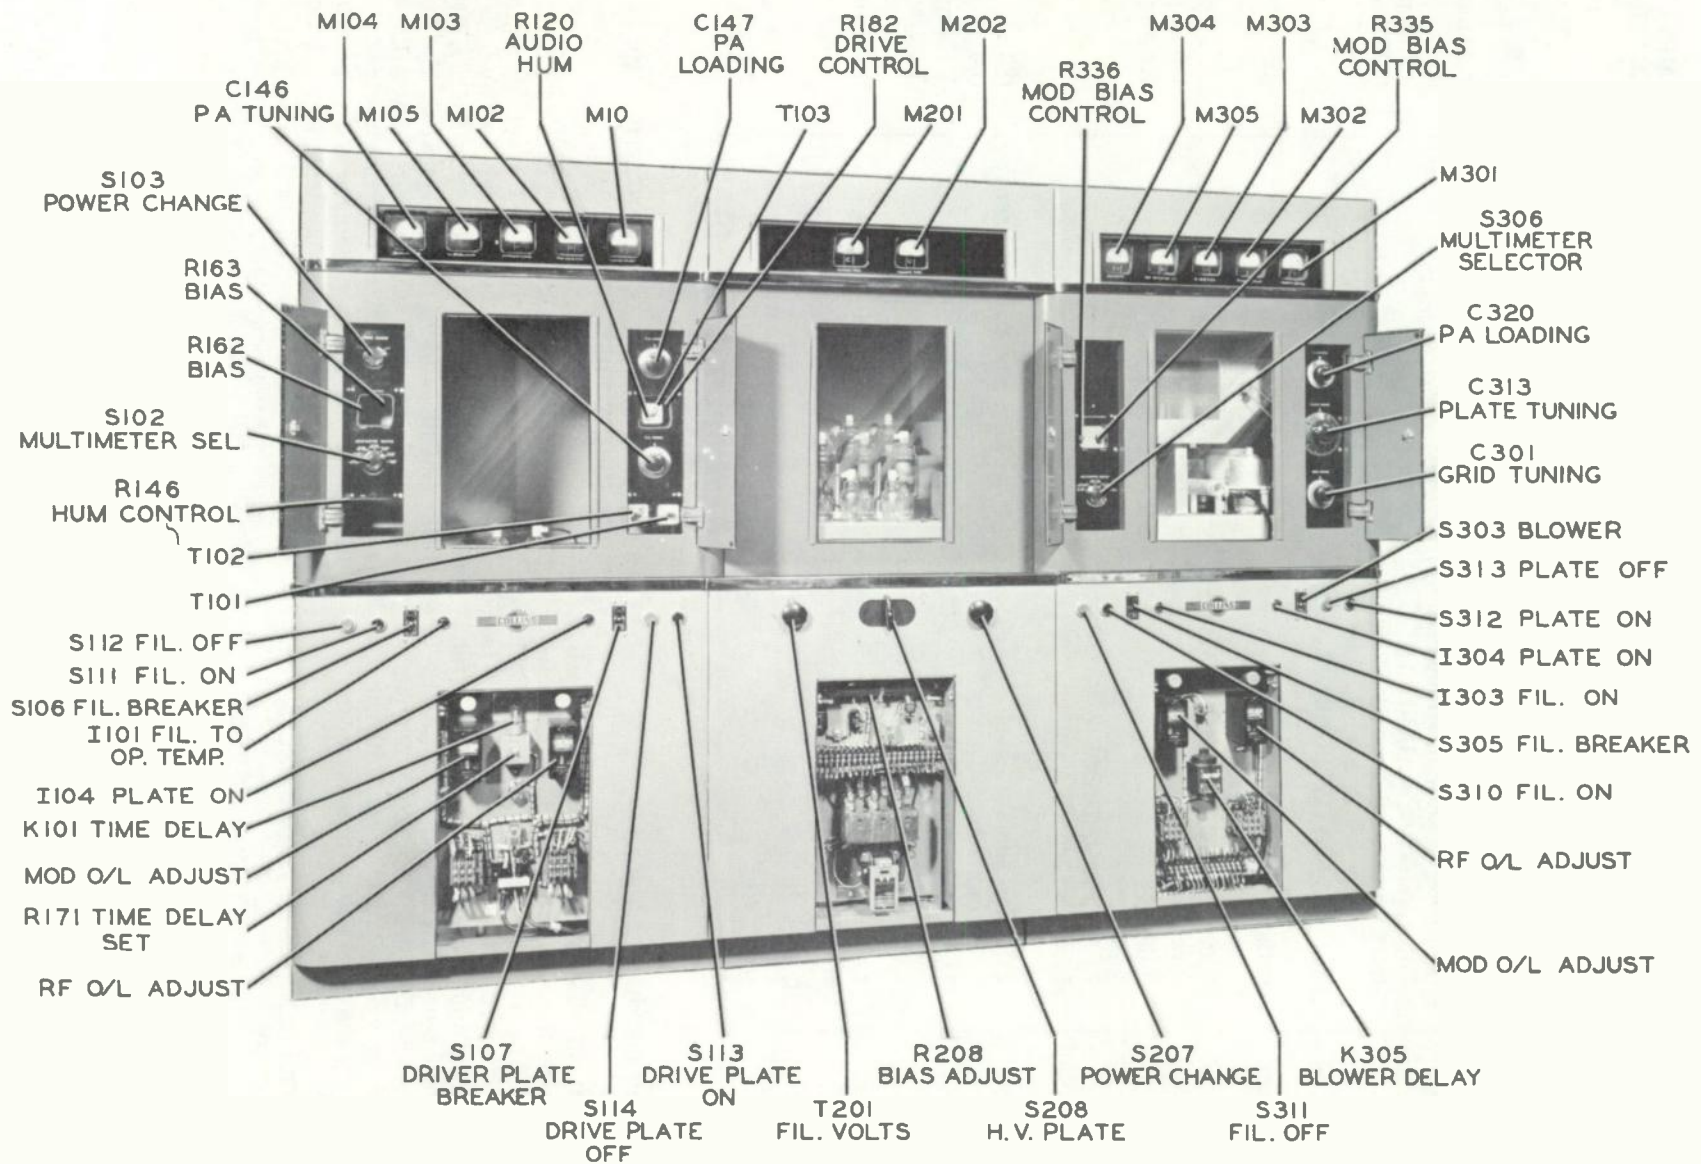

Figure 3-1. 21M Operating Controls and Parts Arrangement, Front View
3.3 Description of Operating Controls. (See figure 3-1.)
Multimeter switch S102 is a two-pole, eight-position switch located behind the left door on the front of the driver cabinet as shown in figure 3-1. This switch inserts multimeter M104 into any one of eight driver circuits. Table 3-1 lists the multimeter switch positions and typical readings for these circuits. The full scale reading of the multimeter is indicated for each switch position.
Power change switch S103 is located behind the left door on the front of the cabinet as shown in figure 3-1. A resistor is connected in series with the high voltage to the r-f driver amplifier plate circuit. Power change switch S103 is connected to short this
The first buffer tank circuit trimmers, C114 and C115, are screwdriver adjustments located behind the lower right inspection plate. The location of these two trimmers is shown in figure 3-1. They should be adjusted for maximum grid drive to the 807 r-f driver stage. The trimmers are connected in parallel as shown in figure 7-2. One of the trimmers should be adjusted to give a good tuning range with the second trimmer.
C125 and C126, the 807 plate circuit trimmers, are screwdriver adjustments located behind the upper right inspection plate. The location of these two trimmers is shown in figure 3-1. They should be adjusted for maximum grid drive to the driver amplifier. The trimmers are connected in parallel as shown in figure 7-2. One of the trimmers should be adjusted to give a good tuning range with the second trimmer, and all adjustments made with the second trimmer.
R-f drive control R182 is a screwdriver adjustment located behind the upper right-hand inspection plate as shown in figure 3-1. It is used to vary the 807 screen voltage in order to regulate the grid drive applied to the r-f driver amplifier. Drive control R182 should be adjusted to hold the 4-125A grid current to below 20 ma.
The driver amplifier plate circuit tuning and loading controls C146 and C147 are located behind the right-hand door on the front of the driver cabinet as shown in figure 3-1. The PA TUNING control is used to resonate the power amplifier plate circuit. An increase in PA grid current, once the PA grid circuit is resonated, is obtained by reducing the capacity of PA LOADING capacitor, C147, while simultaneously returning the power amplifier plate circuit to resonance by means of the PA TUNING control. Initial tuning should be done with the driver cabinet POWER CHANGE switch in the LOW position. Recheck these controls for possible reaction after the PA GRID has been tuned.
The power amplifier plate circuit tuning and loading controls, C313 and C320, are located behind the right-hand door on the front of the transmitter cabinet as shown in figure 3-1. The PA tuning controls are used to resonate the power amplifier plate circuit. An increase in loading is obtained by reducing the capacity of the power amplifier loading capacitor, C320, while simultaneously returning the power amplifier plate circuit to resonance by means of the PA tuning control. With a pi-L output network of the type used in the 21E/M transmitter, any adjustment of the PA loading control will detune the output network and cause the plate current to soar. Care must be exercised to keep the power amplifier tuning at resonance when the PA loading control is adjusted. The loading should be increased until the r-f line current is slightly less than the desired value. The PA tuning control should then be adjusted slightly to the side of resonance that gives an increase in r-f line current. The power amplifier plate current will also increase; however, the increase in power to the r-f line constitutes a large proportion of the increase in power to the power amplifier circuit, thus yielding a higher plate efficiency. Adjust the PA tuning and PA loading controls to the point where the desired amount of r-f line current is obtained with the highest operating efficiency. The highest efficiency will always be obtained with the power amplifier plate circuit slightly detuned. Neutralizing capacitor C310, located between the two power amplifier tubes, does not require readjustment.
Crystal selector switch S101 is located in the center of the area behind the lower right inspection plate as indicated in figure 3-1. The switch shaft is slotted for screwdriver operation. When the switch is turned clockwise, the crystal toward the right side of the chassis (as viewed from the front of the transmitter as in figure 6-12) is selected.
Crystal frequency trimmer controls C101 and C102 are located behind the lower right inspection plate as indicated in figure 3-1. These two controls provide for small adjustments in the crystal frequency. C101, the upper control, adjusts the frequency of Y101 the left-hand crystal as seen from the front of the transmitter.
Audio driver bias adjustments R162 and R163 are located behind the upper left inspection plate as indicated in figure 3-1. These two screwdriver adjustments control the amount of negative bias applied to the grids of the individual driver tubes. Turning the controls clockwise increases the amount of bias applied to the tubes. To adjust these two controls, first turn them completely clockwise; then turn on the driver plate supply, and alternately adjust one control and then the other 30 ma at a time until 130 ma MODULATOR PLATE CURRENT (driver cabinet) is obtained. Then adjust these controls for minimum distortion when adjusting the transmitter for minimum distortion. The audio driver plate current will normally be 125 to 150 ma. R149 may be adjusted to give good range with R162 and R163.
Audio hum controls R120 and R146 are screwdriver adjustments. R120 is located behind the upper right inspection plate of the driver cabinet as shown in figure 3-1. R146 is located behind the lower left inspection plate. They are variable resistors used to